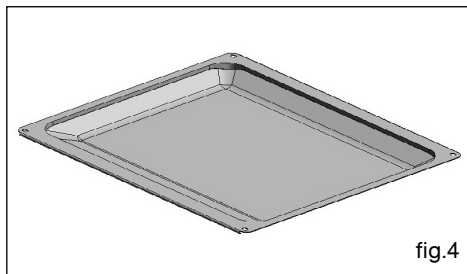

fig.4
- **Multi-purpose 20 mm dish (fig.4)**
- remove the handle by unscrewing, in order to be able to close the door (fig.4). After cooking, screw on the spit handle once again in order to remove the roast without burning yourself.
- If necessary, remove the door's inner glass assembly. This assembly is composed of one or two sheets of glass (depending on model), each of which has a black rubber corner pad (fig.4).